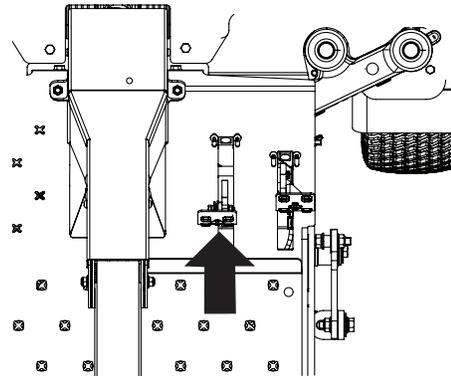

Figure 25
- Slowly push the forward drive pedal forward. The mower will start to move forward (Figure 25).